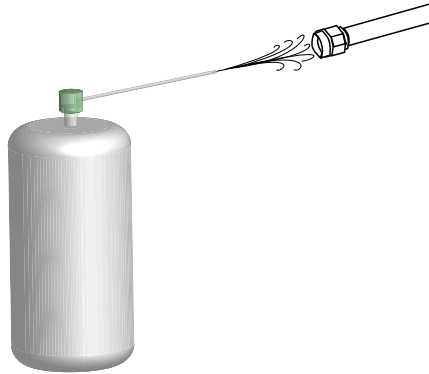

Figure 2-5. Low Pressure Compressed Air Cleaning
1. Remove loose particles on the mating surfaces, threads, and similar surfaces using low-pressure compressed air. Refer to Figure 2-5. Avoid forcing dirt down into the connector by applying the forced air at a slight angle.